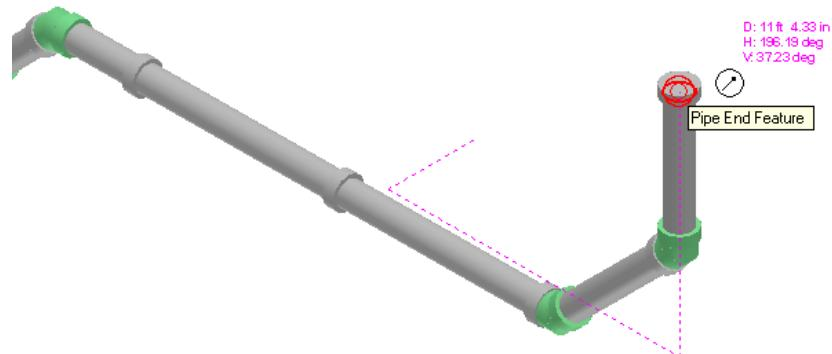

Figure 4.38: Repositioning of the Target Point
68. Set the PinPoint mode to **Rectangular Coordinates**. Select the **Reposition Target** option on the **PinPoint** ribbon and place the target at the cleanout located in the lateral sewer line, as shown in Figure 4.38.